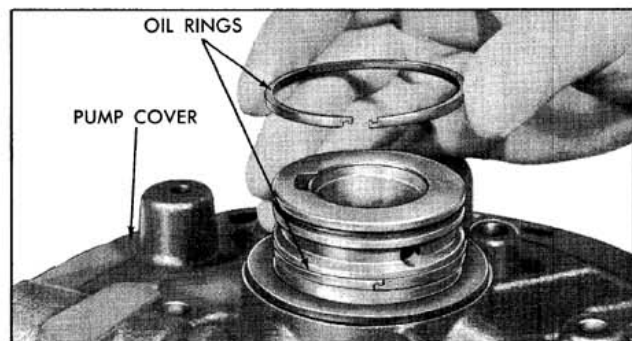

Fig. 6-107 Removing Oil Ring
10. Remove the hook type oil rings from the pump cover. (Fig. 6-107)